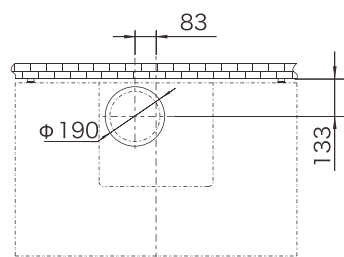

Figure 2
- As figure (1), drill three holes of $\Phi 10\text{mm}$ horizontally on the wall, hole depth 50mm, and hole spacing 109mm;
- Install the air duct cover (if needed): If the kitchen room has suspended ceiling and flexible duct through the ceiling (the opening size as Figure 2);